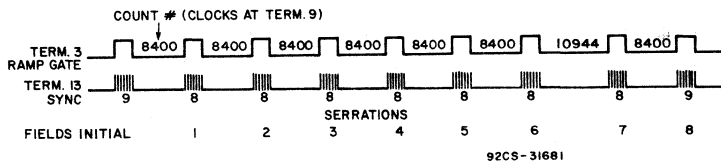

Fig. 8 - Mode recognition field count test (applies to test referenced to Note 22).
- This series of tests checks the mode recognition circuit. The first test after initialization applies 9 serrations at the sync input terminal. The IC should go to the synchronous count ratio of 8400. During the next seven fields only 8 serrations are applied. The CA3202E should maintain the synchronous count ratio of 8400 for the first six fields. At the seventh field the CA3202E should go to default count of 10944. The test concludes with a 9-serration input. The CA3202E should revert to a synchronous count of 8400 (see Fig. 8).